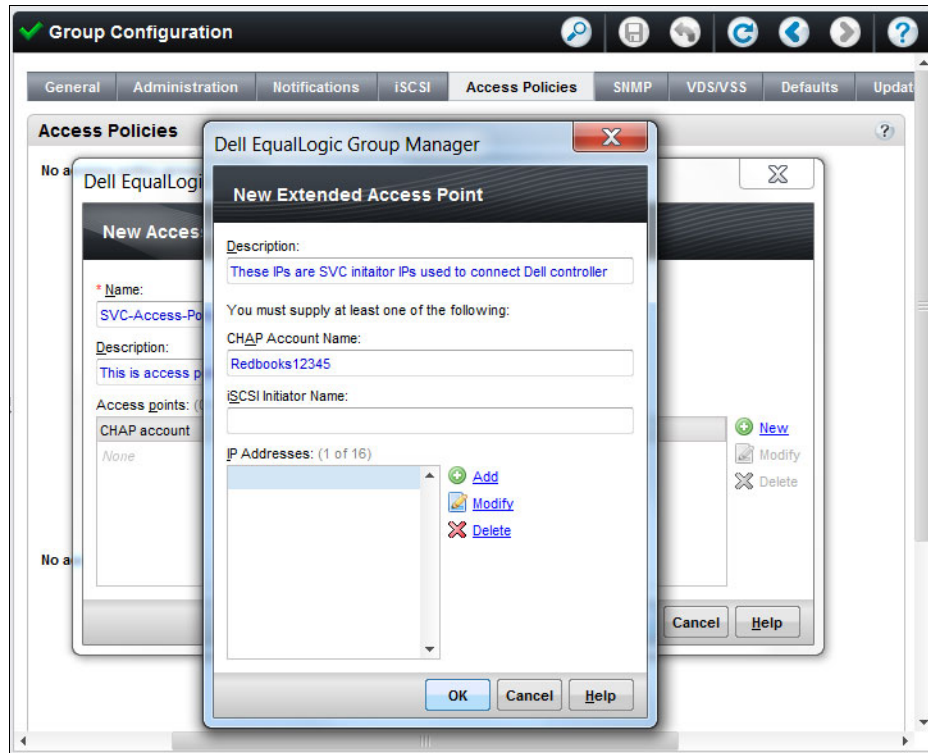

Figure 14-9 Dialog box to add the access policy details
5. Select **New** to create an extended access point. Figure 14-9 shows the New Extended Access Point dialog box.